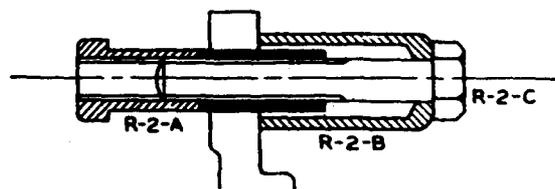

Fig. 20
(7) **Tell Tale Shaft Bearing:** Remove the tell tale shaft bearing by means of the bearing removal tool shown in Fig. 20. The three parts of this tool are marked R-2-A, R-2-B and R-2-C. Assemble them in the bearing as shown so that when nut R-2-A is tightened the bearing will be pushed into the recess of R-2-B.